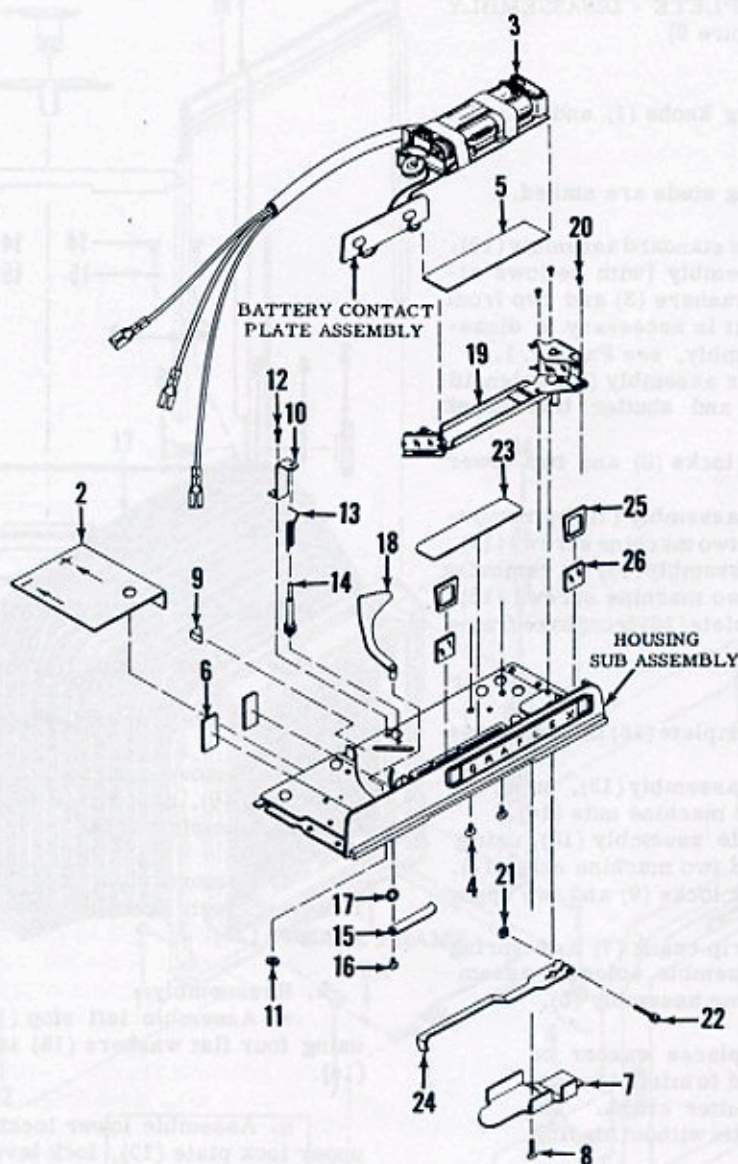

Figure 10. RANGEFINDER HOUSING COMPLETE
V. RANGEFINDER HOUSING COMPLETE - DISASSEMBLY AND REASSEMBLY (Figure 10)
- a. Remove cemented guard (2).